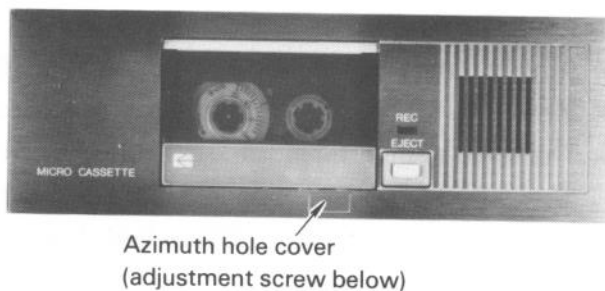

Fig. 6-16
1. Remove the cover of the azimuth hole of the microcassette drive shown in Fig. 6-16.